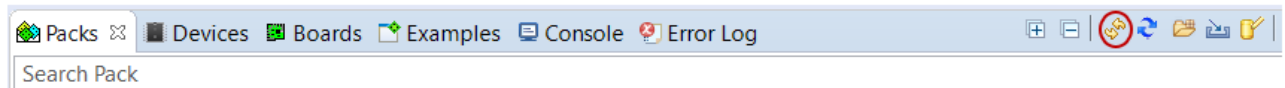

Figure 34. Refresh Pack after Installation
- After installation, click on the refresh icon with yellow arrows, which shows the text **Reload Packs in the CMSIS Pack root folder** when you hover over it with your cursor, in the Packs tab (as shown in the "Refresh Pack after Installation" figure (Figure 34)), to update your pack properties.